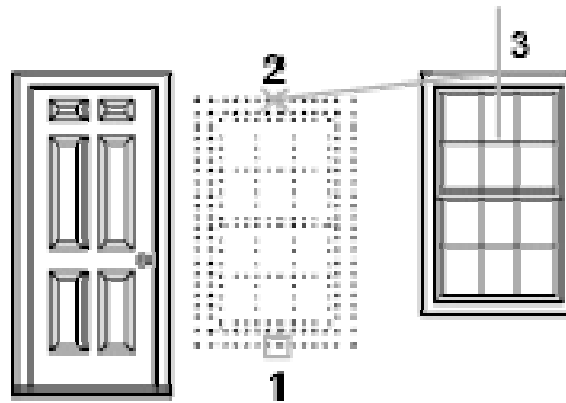

Figure 5.3 – Move Objects
the base point for the move (2) followed by a second point (3). The object is moved the distance and direction of point 2 to point 3 (fig. 5.3).